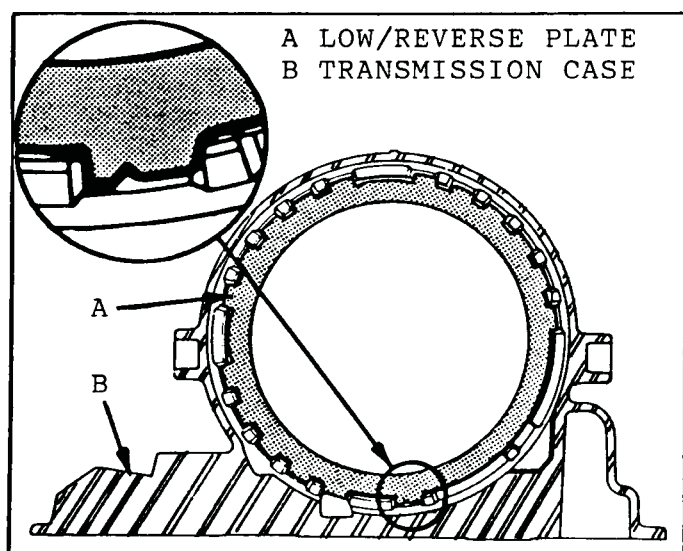

Figure 63
5. Install low/reverse clutch plates beginning with a steel plate (Figure 63) and alternating with a lined plate. The number of plates will be determined by the L/R piston height, as shown in Figure 55.